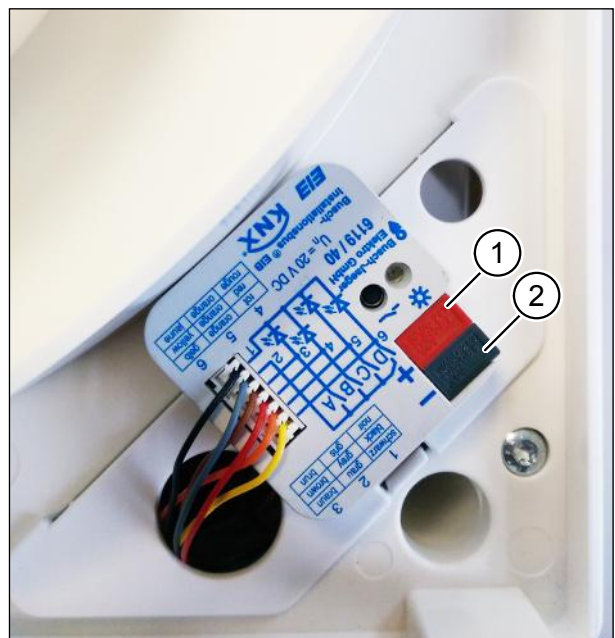

Fig. 13: Connecting the EIB bus cable to the EIB universal interface 6119/40
- ▶ Connect the “+” bus wire to the red terminal (item 1 in Fig. 13).
- ▶ Connect the “-” bus wire to the grey terminal (item 2 in Fig. 13).